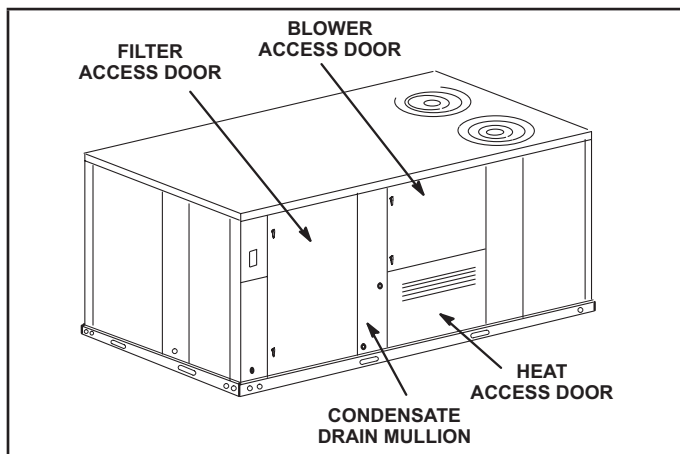

FIGURE 6
- 1 - Open blower and heat access doors. See FIGURE 6.